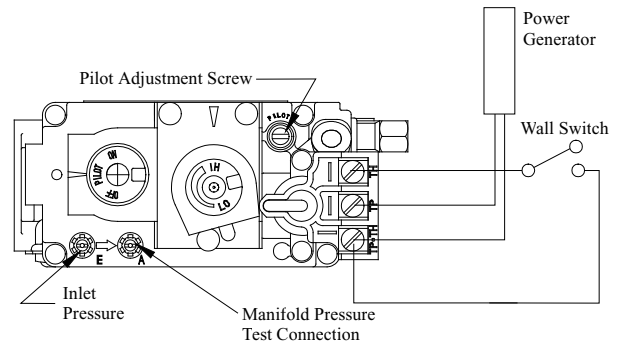

Figure 25. Sit Nova 820 gas valve.
- Have the fireplace installation inspected yearly, including a visual check of the vent system, the burner and the pilot flame. For convenience a 1/8" manifold pressure tap is supplied on the gas valve for a test gauge connection. See Figure 25.
1. Locate Pilot Adjustment Screw. (See figure 25.)
Pilot won't ignite	Disconnect remote wires and try to light pilot. If pilot now works, remote connections are faulty. Check wiring diagram figure 25.
Main burner will not light	<ol style="list-style-type: none"> <li>1. Check wiring (see figure 25)</li> <li>2. Check wall switch for proper connection.</li> <li>3. Check pilot burner. If extinguished:                             <ol style="list-style-type: none"> <li>a. Allow fireplace to cool, then try to relight.</li> <li>b. If condition persists, call a qualified service person.</li> </ol> </li> </ol>